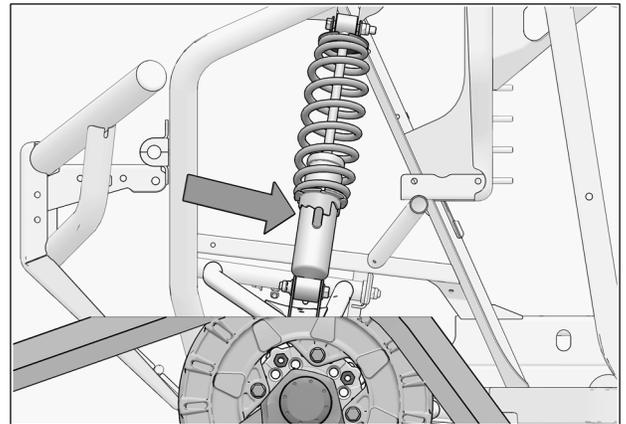

Fig. 28
1. Verify the suspension settings. If the shock absorbers are adjustable, adjust them to the stiffest setting to allow for maximum clearance between the System and the vehicle's fenders. See Fig. 28